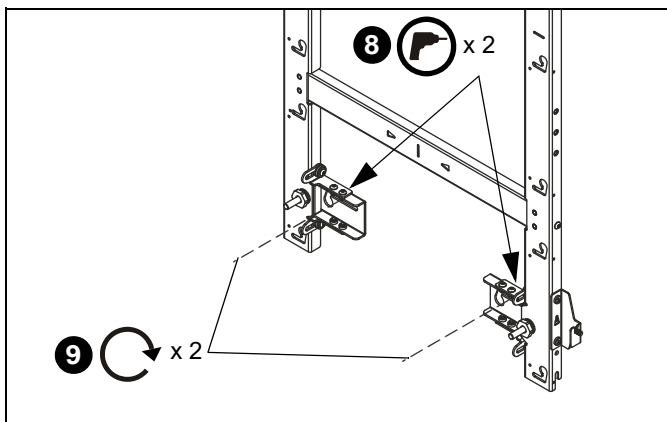

Figure 8
8. Drill lower pilot holes (see Table 1 for size) at attachment locations and follow fastener information (appropriate for wall type) located in Table 1. (See Figure 8)
9. Install two fasteners through lower part of mount and tighten. (See Figure 8)